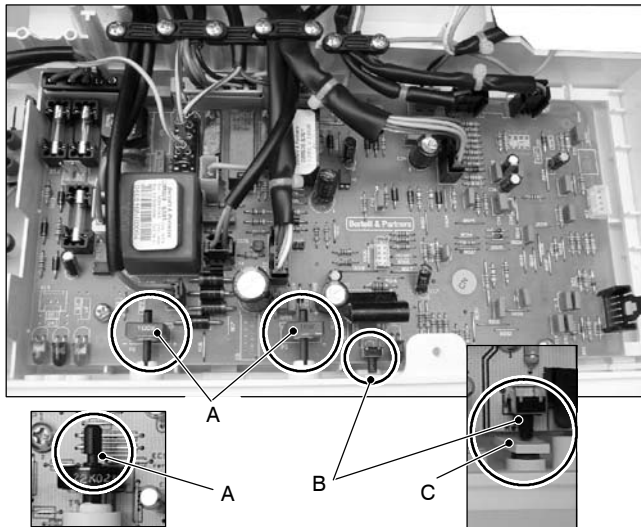

Fig. 9.19
- 9 Insert the spindles in the control panel knobs until the notch A (Fig. 9.19) reaches the potentiometer edge. It is not necessary to force them in the knob.
ing sure of the contact between the boiler reset button *B* and the tab *C* (Fig. 9.19).